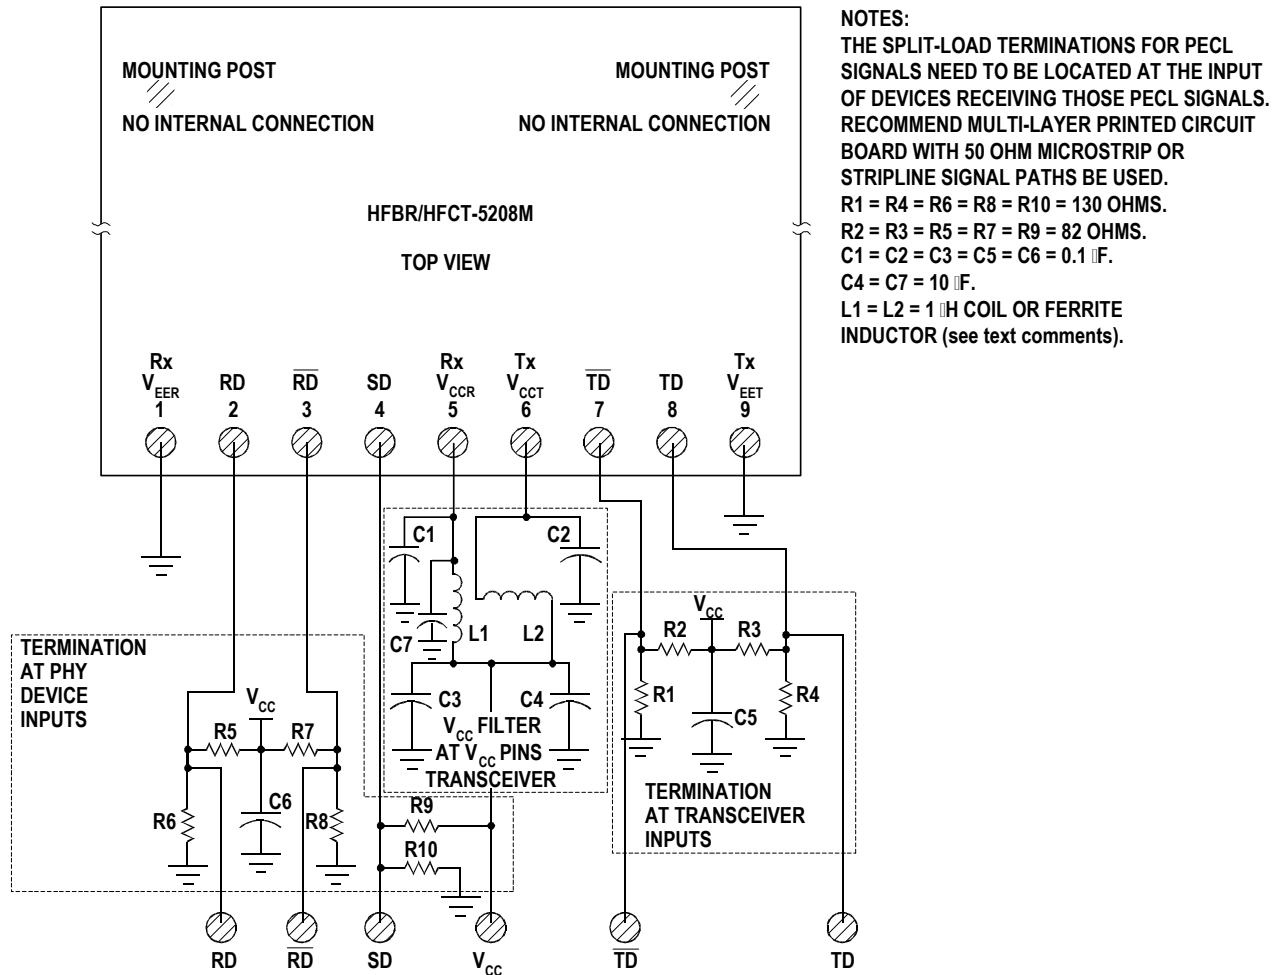

Figure 4. Recommended Circuit Schematic for dc Coupling (at +5 V) between Optical Transceiver and Physical Layer IC
When designing the HFBR/HFCT-5208M circuit interface, there are a few fundamental guidelines to follow. For example, in the Recommended Circuit Schematic, Figure 4, the differential data lines should be treated as 50 ohm Microstrip or stripline transmission lines. This will help to minimize the parasitic inductance and capacitance effects. Proper termination of the differential data signal will prevent reflections and ringing which would compromise the signal fidelity and generate unwanted electrical noise. Locate termination at the received signal end of the transmission line. The length of these lines should be kept short and of equal length to prevent pulse-width distortion from occurring. For the high-speed signal lines, differential signals should be used, not single-ended signals. These differential signals need to be loaded symmetrically to prevent unbalanced currents from flowing which will cause distortion in the signal.
3. Tested with a 100 mV p-p sinusoidal signal in the frequency range from 500 Hz to 1 MHz imposed on the  $V_{CC}$  supply with the recommended power supply filter in place, see Figure 4. Typically less than a 0.5 dB change in sensitivity is experienced.